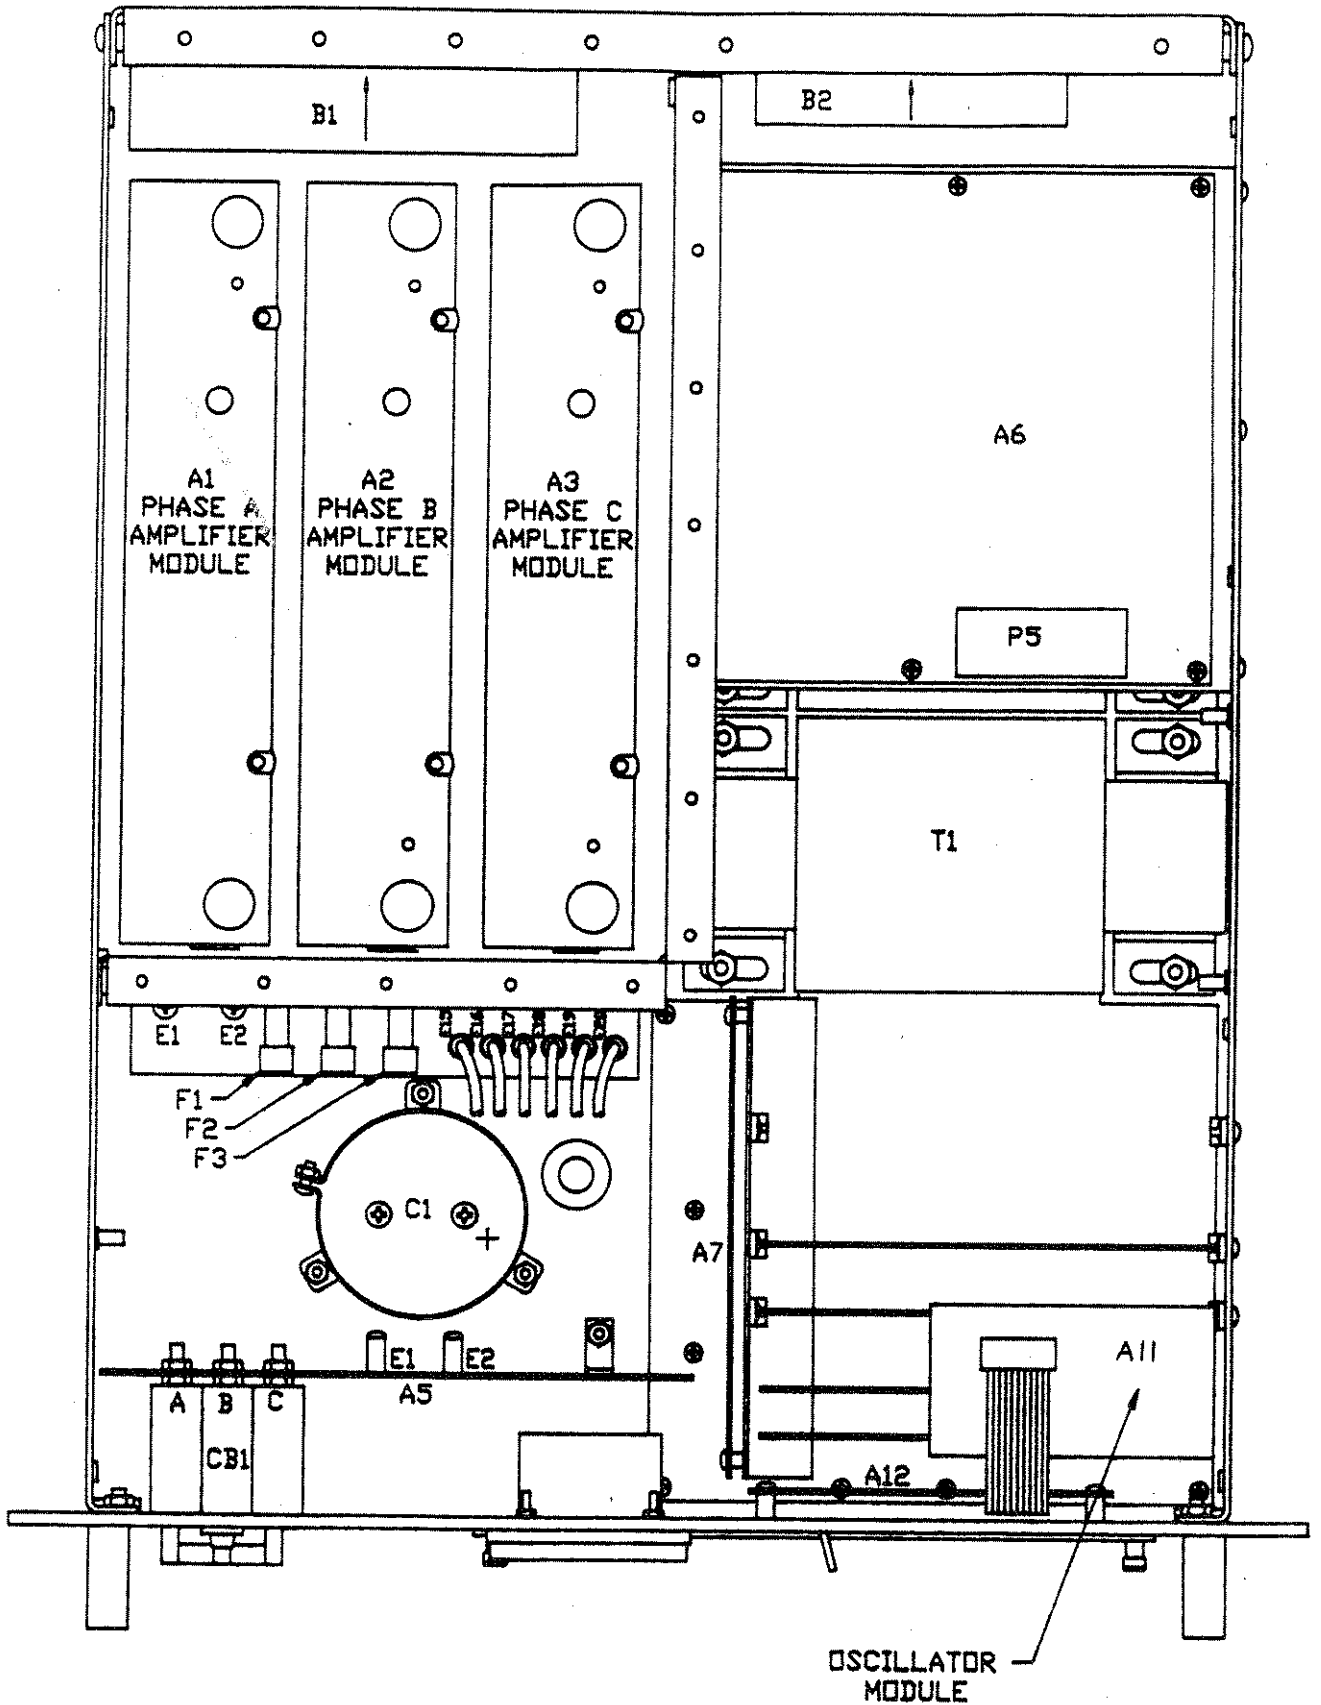

FIGURE 6-1
6-18 Figure 6-1 shows the location of the internal modules and assemblies. The figure shows the Amplifier Modules, A1, A2 and A3, with the insulator removed.
6-20 If a fault is found that requires the replacement of the Oscillator Module (assembly 4009-402-1) follow the following steps and refer to Figure 6-1 for the module locations:
6-22 If a fault has been found that indicates the failure of an amplifier module (assembly 4009-404), check the condition of the +300 VDC fuses before replacing the amplifier. Refer to Figure 6-1 for the location of the fuses. Fuse F1 is for phase A, F2 for phase B and F3 is for phase C.
6. Check the amplifiers associated 10 amp and fuse and replace it if necessary. Refer to Figure 6-1 for the location of the fuse. F1, F2 and F3 are for the phase A, B and C amplifiers respectively.